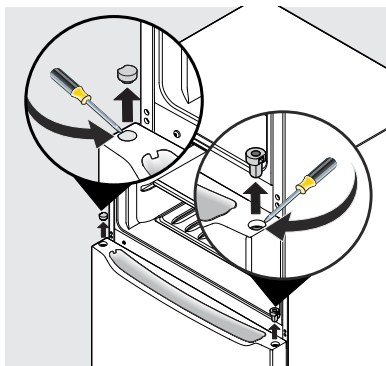

Figure 5
14. Pry out the center hinge bearing from the top of the refrigerator door with a straight screwdriver (see Figure 5).
15. Pry out the center hinge bearing plug from the opposite side of the refrigerator door with a straight screwdriver (see Figure 5).